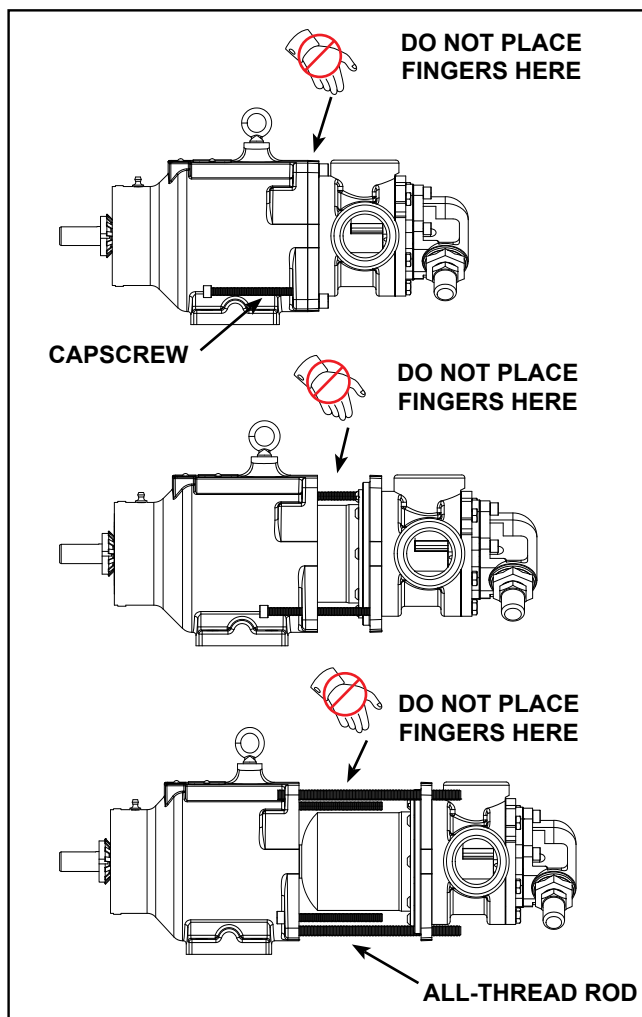

FIGURE 7
3. Mark the head (40) and casing (31) before disassembly to insure proper reassembly.
4. To inspect the head and pin assembly (39 and 40) and idler and bushing assembly (37 and 38), remove the head capscrews (43).
5. Remove the head from the pump. If the casing was not drained in Step 1, be careful of the liquid draining out between the head and casing. Do not allow the idler to fall from the idler pin. Tilt the top of the pump head back during removal to prevent this. Avoid damaging the head shim set (63) since all shims are required to maintain end clearance.
7. Remove the four socket head capscrews (28) securing the pump to the bracket. Support the pump with an overhead hoist, if possible.
8. Use the jackscrews (14) in the bracket to separate the inner magnet (57) from the outer magnet (58), see sequence in **Figure 7**. To keep the pump and bracket assemblies properly aligned and for additional safety, it is recommended to use 2 lengths of all-thread rod (6-8”) threaded into diagonal capscrew locations in the bracket and slide through the corresponding holes in the adaptor plate.